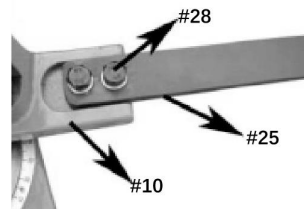

Figure 1
2. Secure the handle (#25) to the rotating body (#10) using bolts (#28), spring washer (#29), washer(#30). (See Figure 1).
2. Turn the rotating body (#10) by using the handle (#25) to bend the work piece as desired (part #10 & #25, please refer to Figure 1).